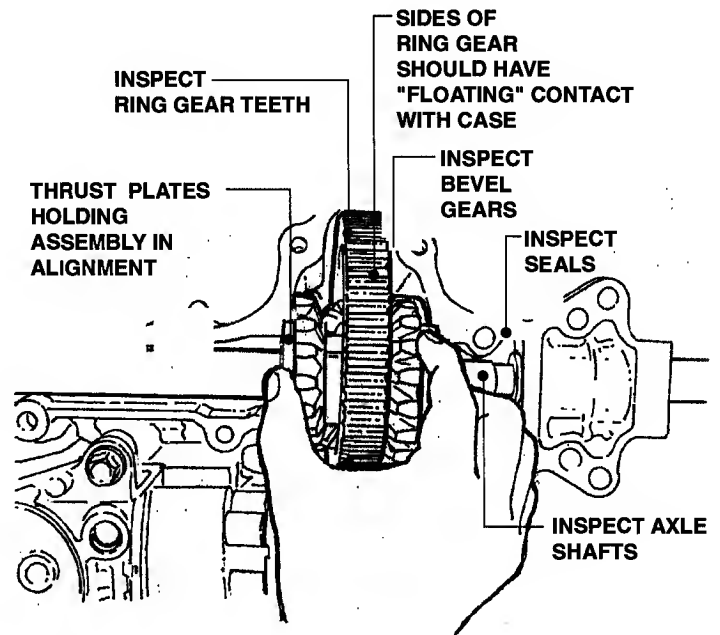

FIGURE 4.7
1. Inspect the ring gear for worn, broken or missing teeth. See Figure 4.7.